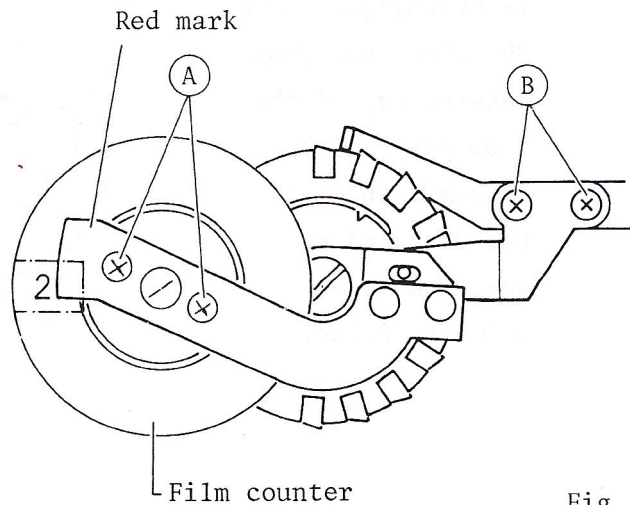

Fig. 104
- b. After releasing the shutter, the red mark should appear in the window as shown in Fig. 104.